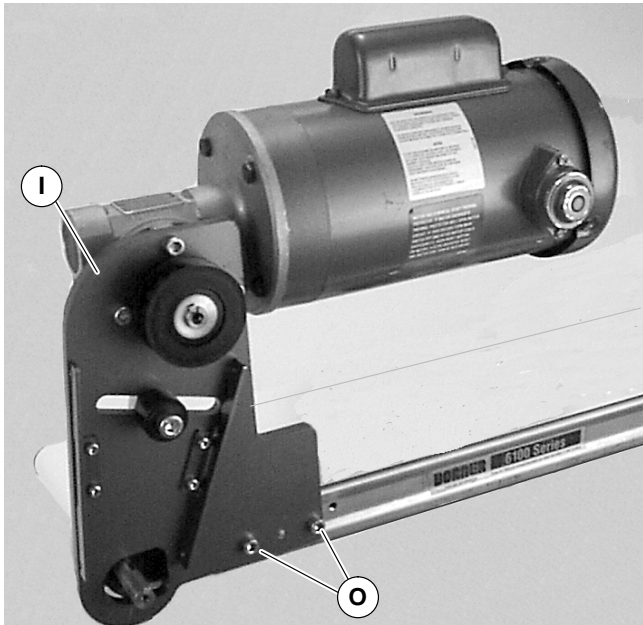

Figure 6
4. Attach mount assembly (I of Figure 6) with screws (O). Tighten screws to 9 Nm.